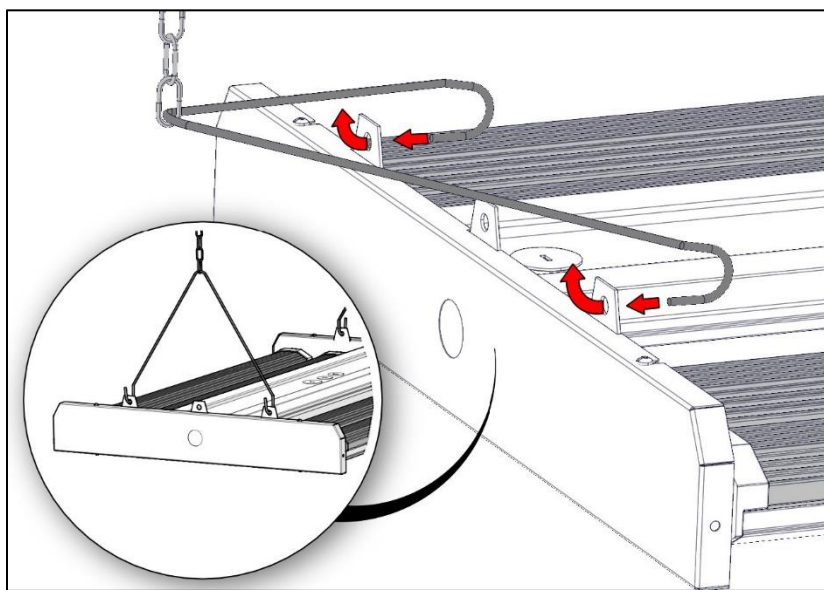

Figure 2
3. If mounting the fixture with hook and chain, attach each chain or cable (provided by others) to the included hooks (One chain/cable per hook). Attach the hooks to the fixture using the holes of the mounting tabs located on each end of the fixture. (Figure 2)